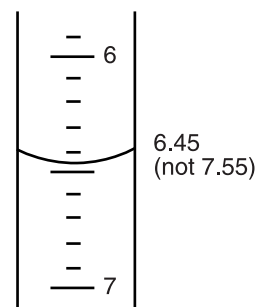

Figure 1.
- Record the precise level of the solution in the buret. This is the *initial volume* of the potassium permanganate solution for Trial 1. *Note:* Volumes are read from the top down in a buret. Always read from the bottom of the meniscus and remember to include the appropriate number of significant figures. (See Figure 1 for reading buret level.)